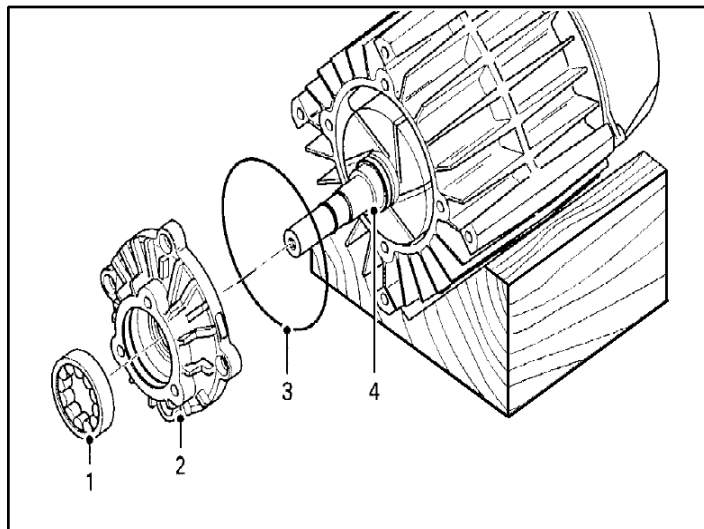

Figure 11. Replacing the sideplate.
1. Place the O-ring back into the sideplate groove and pass the sideplate over the rotor shaft carefully engaging the bearing outer onto the inner race. See Fig 11.